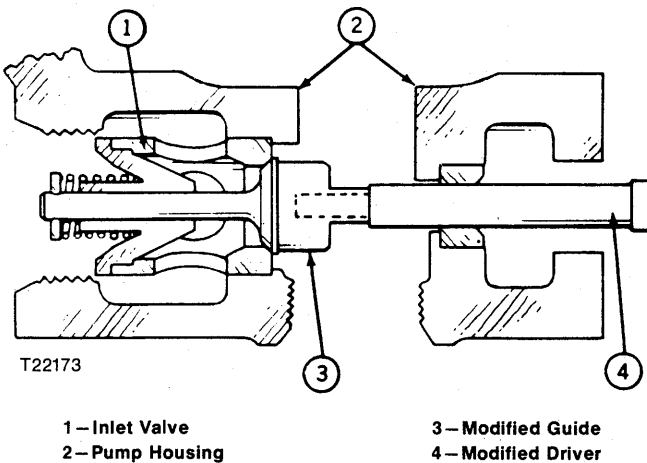

Fig. 5—Driving Out Inlet Valve Assembly
3. Drive inlet valve assemblies from housing with tool made from old R27157 Discharge Valve Guide (with chamfer ground off) and a driver with shoulder ground to fit guide (Fig. 5) (see Special Tools).